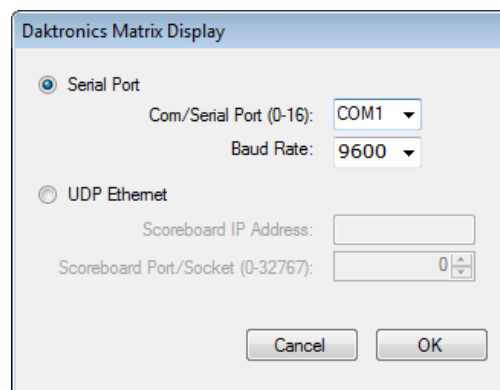

Figure 14: FlashTiming Scoreboard Options
2. Click on **Serial Port**, and set up the options as follows (refer also to **Figure 14**).